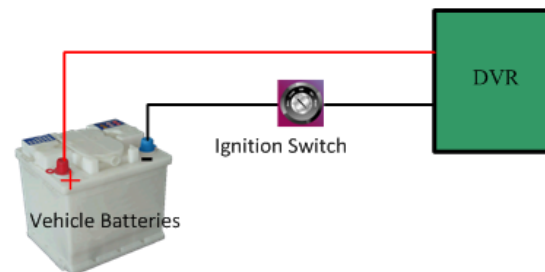

Fig 2.7 Negative pole ignition switch
- (2) Negative pole ignition switch: ignition switch is connected to the negative pole of vehicle battery and supply low signal (as in Fig 2.7)